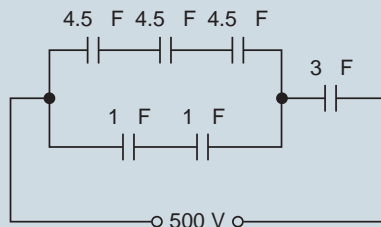

Figure 8.12
6. For the arrangement shown in Fig. 8.12 find (a) the equivalent circuit capacitance and (b) the voltage across a $4.5\mu\text{F}$ capacitor.